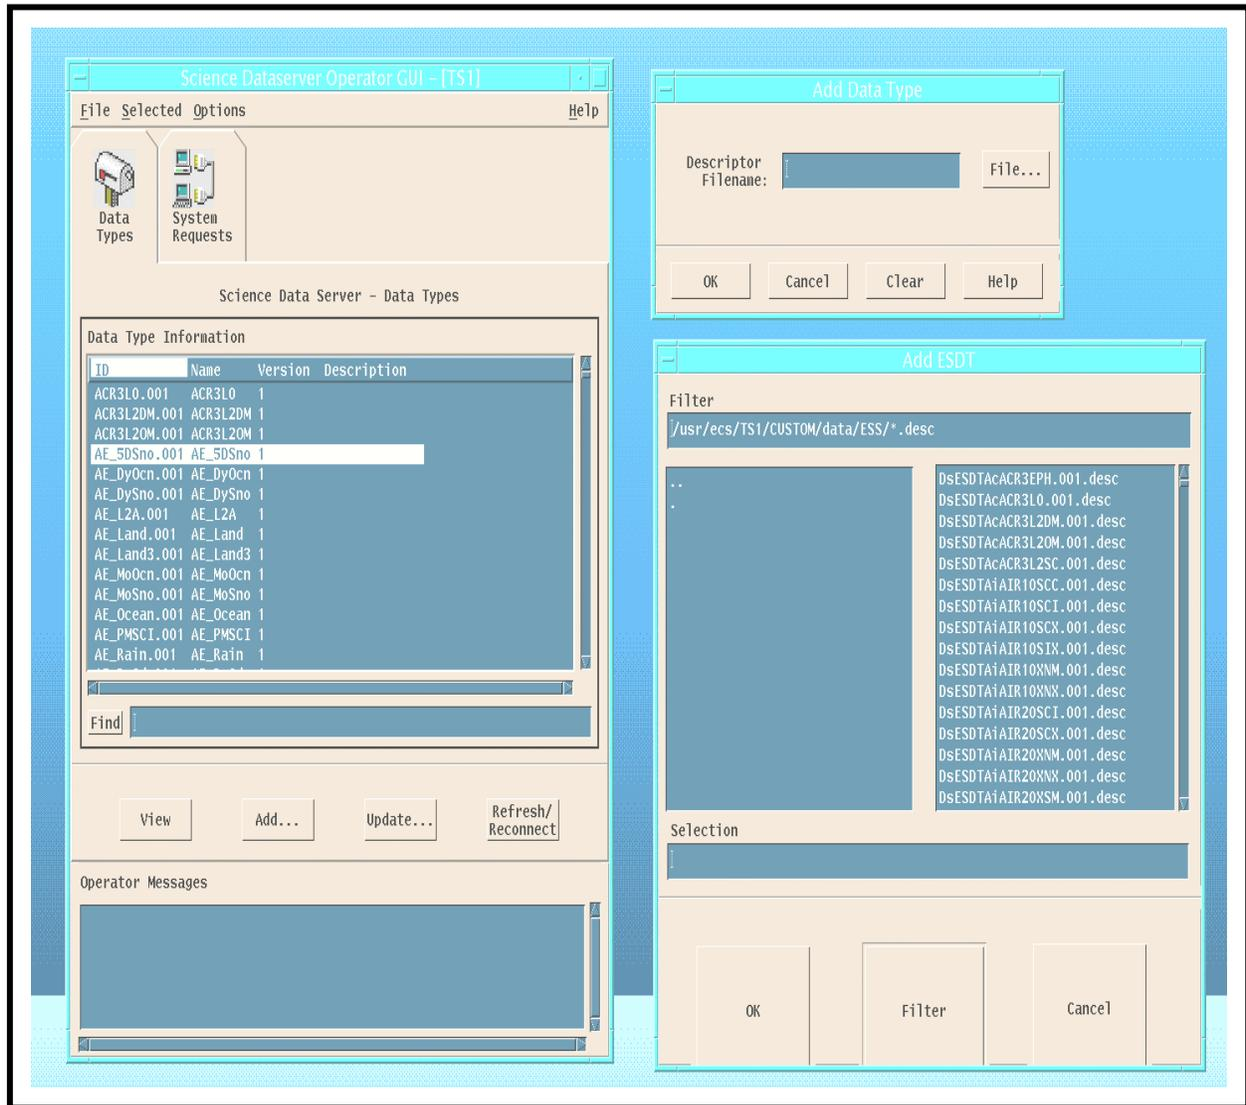

Figure 15. Adding An ESDT - The GUIs Involved
- This brings up the Science Operator Data Server GUI as shown in Figure 15.
- This brings up the **Add Data Type** GUI as shown in Figure 15.
- This brings up the **Add ESDT** GUI as shown in Figure 15.